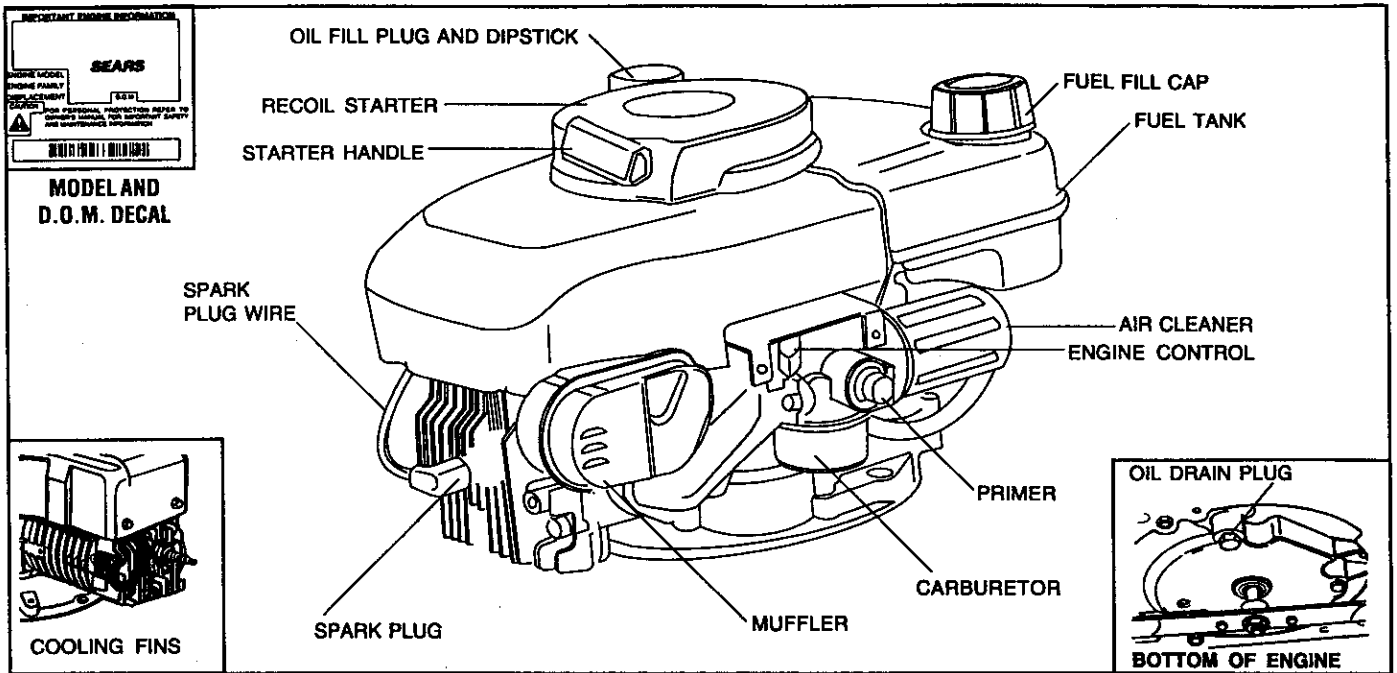

Figure 1
- Clean area around oil fill plug (see Figure 1).
B. Be sure spark plug wire is attached to spark plug (see Figure 1).
① Move engine control (see Figure 1) to HI Position.
② START ENGINE:
ENGINE SPEED: Engine speed is controlled by the engine control (see Figure 1). Engine control should be in HI position for high grass conditions and for most efficient bagging in heavy grass conditions, and in LOW position for light grass, trimming and for fuel economy.
C. Remove oil drain plug and oil fill plug to drain oil (see Figure 1).